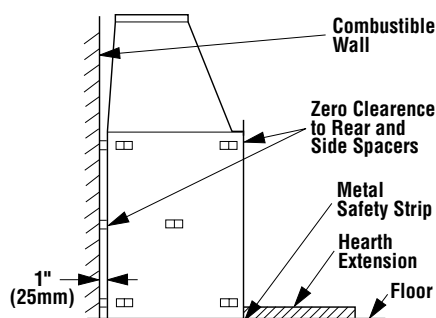

Figure 7-1
Step 2. Insert the metal safety strips, packaged with the fireplace, beneath the fireplace, as illustrated in **Figures 7-1 and 7-2, below**. The safety strips should overlap 1" (25 mm) for continual coverage of the floor.